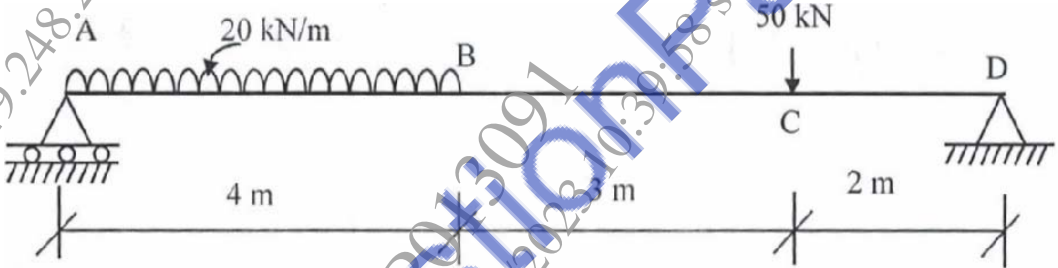

Figure 3
- b) Draw the Shear force diagram (SFD) and Bending moment diagram (BMD) for a beam ABCD as shown in figure 3. [8]